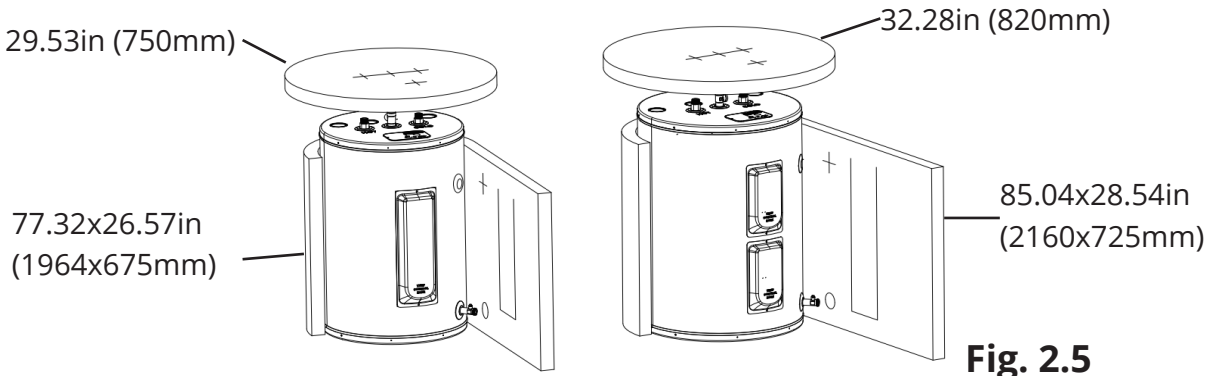

Fig. 2.5
1. Wrap the cover around the water heater as shown in figure 2.5, pay attention to the hole positions of the cover and the corresponding installation positions of the valve bodies on the water heater.